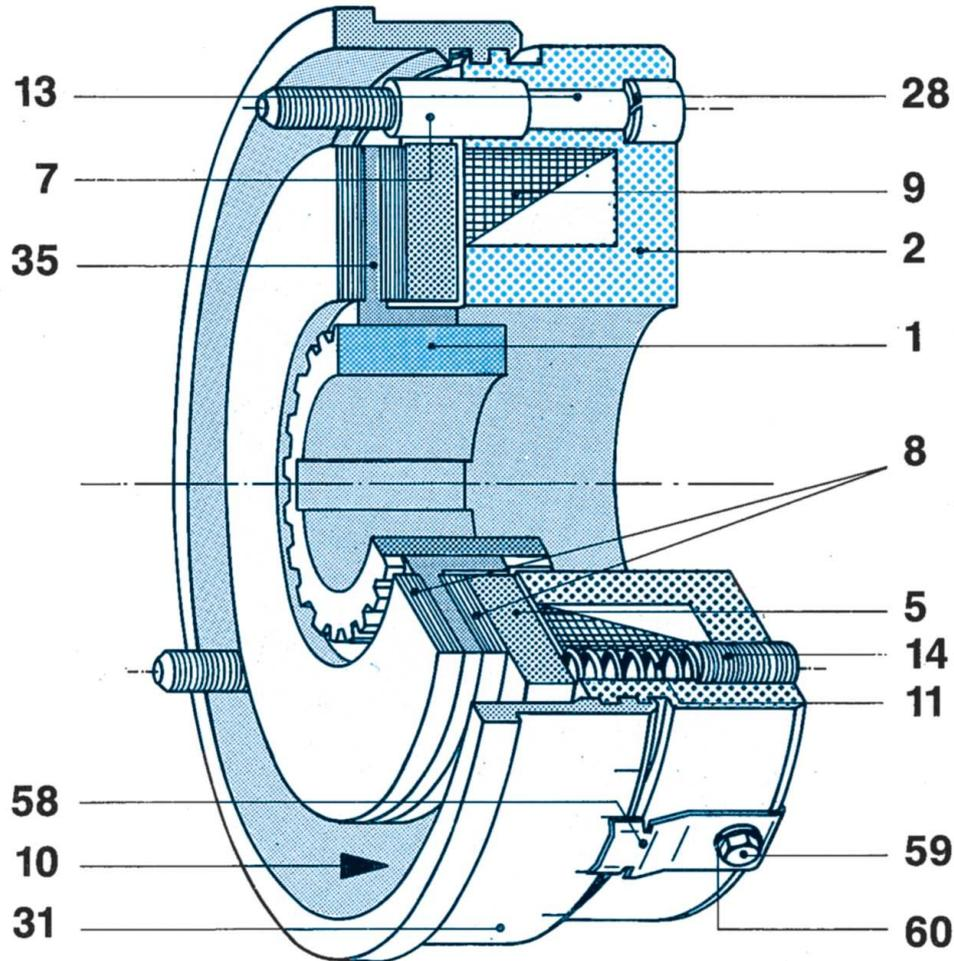
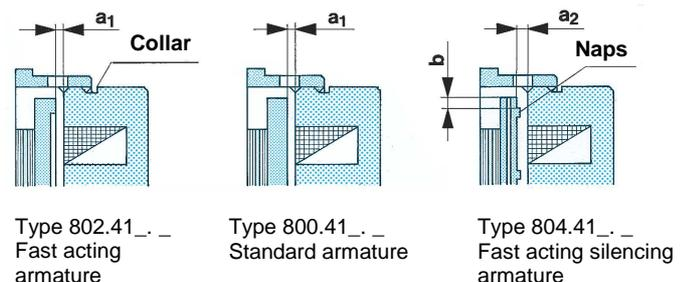

Fig. 1
Fig. 2
Check the air gap (a_1 , a_2). Fig. 2 nominal air gap (a_1 , a_2) according to Table 2 must be available. The shoulder screws (10) Figs. 1 and 4 prevent the individual parts from coming apart.
The working air gap between armature disc (5) and coil carrier (2) is adjusted to the nominal dimension (a_1 , a_2) in the factory, Fig. 2 and Table 2
1. Remove a plug from the threaded distance ring (31). Measure the air gap in a de-energised condition with a feeler gauge before an adjustment. The difference between the measured air gap and nominal air gap (a_1 , a_2) according to Table 2 must be re-adjusted.
2. Loosen the fixing screws (13).
3. Release the locking screw (59) and lock washer (58).
4. Turn the threaded distance ring (31) counter-clockwise (when looking at brake back side). Turning the distance ring (31) by one graduation of the stamped scale corresponds to an air gap adjustment for the sizes 3 to 6 of 0,05 mm, for the sizes 7 to 11 of 0,1 mm.
5. Tighten the fixing screws (13), observe the tightening torques according to Table 1.
6. Tighten the clamping screw (59).
This adjustment can be repeated so often, until the graduated distance ring (31) contacts the rod-stop of the coil carrier (2), Fig. 2. This contact avoids an unacceptable wear of the rotor (35). If a re-adjustment is not possible any more, the rotor (35) must be exchanged. You can find data on the rotor thickness in a new condition and thickness after a max. wear in Table 2.